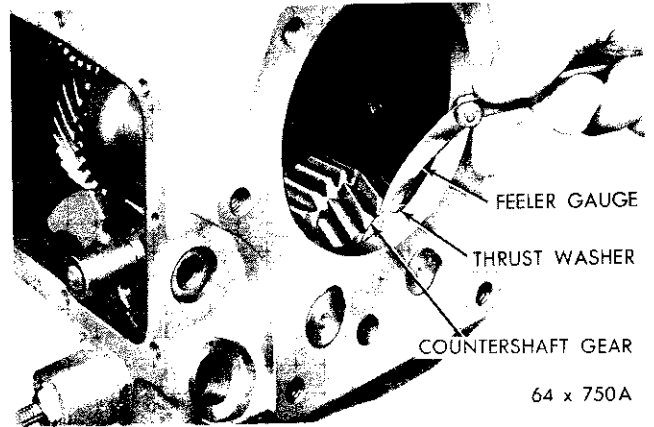

Fig. 40—Measuring Countershaft Gear End Play
(11) Using a shim stock feeler gauge, measure the end play of the countershaft gear, by inserting the gauge between the thrust washer and the gear, (Fig. 40). This measurement should not exceed .0045 to .028". If measurement is greater than that specified, new thrust washers must be installed at reassembly.